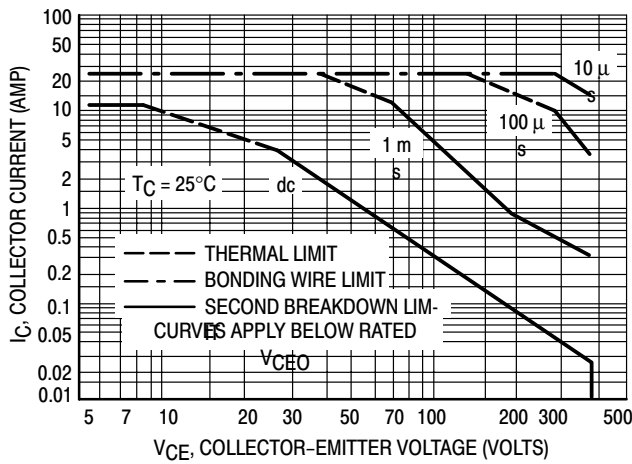
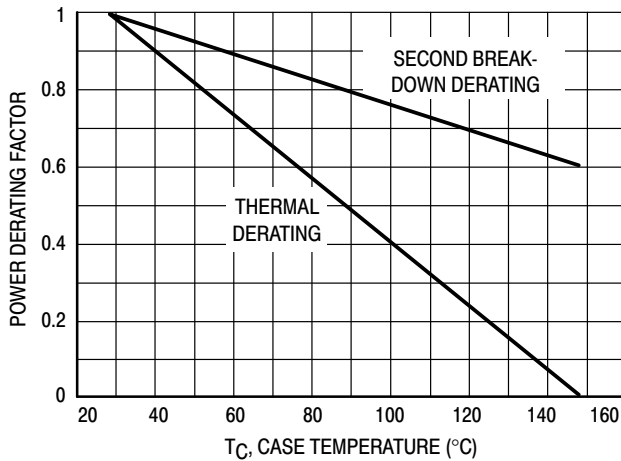

Figure 1. Forward Bias Safe Operating Area
Figure 3. Forward Bias Power Derating
The Safe Operating Area figures shown in Figures 1 and 2 are specified ratings for these devices under the test conditions shown.
The data of Figure 1 is based on  $T_C = 25^\circ\text{C}$ ;  $T_{J(pk)}$  is variable depending on power level. Second breakdown pulse limits are valid for duty cycles to 10% but must be derated when  $T_C \geq 25^\circ\text{C}$ . Second breakdown limitations do not derate the same as thermal limitations. Allowable current at the voltages shown on Figure 1 may be found at any case temperature by using the appropriate curve on Figure 3.
The sustaining or active region voltage requirements in switching applications occur during turn-on and turn-off. If the load contains a significant capacitive component, high current and voltage can exist simultaneously during turn-on and the pulsed forward bias SOA curves (Figure 1) are the proper design limits.
2. The turn-on time does not exceed 10  $\mu$ s (see standard pulsed forward SOA curves in Figure 1).